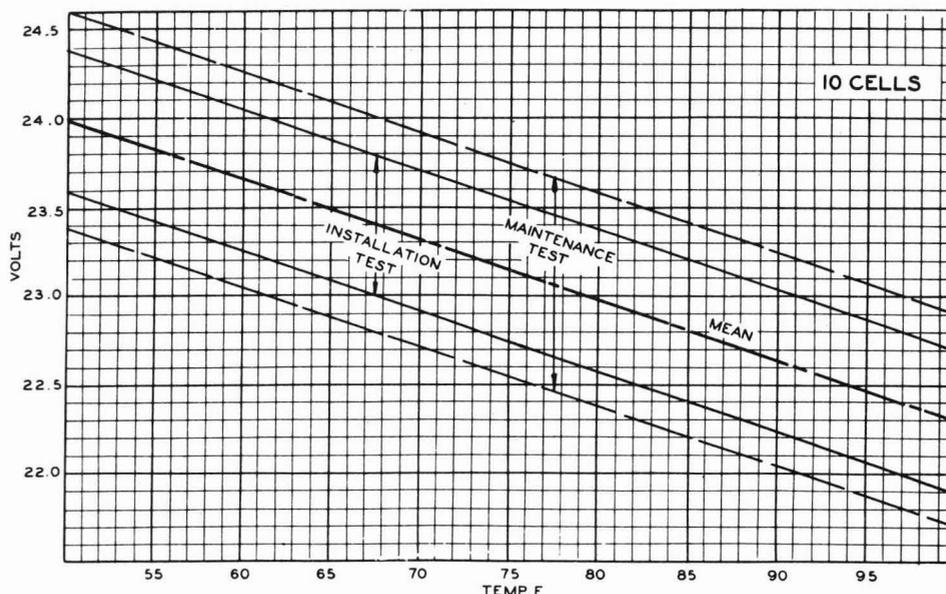

Fig. 3—253A Relay Operate Limits. (Without Rheostat)
1.02 It is reissued to specify the use of the Model 280 Voltmeter or M9B meter for all tests and to delete the KS-8039 Voltmeter, to eliminate the readjust curves in Figs. 3, 4, and 5; to rearrange and reword the text, and, in general, bring the section up to date. Significant changes are marked by arrows.
2.02 **The 253A and 253B relays for 8, 10 or 11 cell batteries without rheostats** in the relay coil circuit to reduce the charge, shall meet the operate values shown in Fig. 3, 4 or 5 as indicated.
(1) Set up the connections, stabilize the relay, and determine the temperature and operate voltage of the relay as outlined in 3.01. If the operate voltage is within the installation test limits specified for the temperature shown in Fig. 3, 4 or 5 for the type battery being used, no further action is required. If it is not within the limits, readjust as follows.
- (6) The maintenance test is less critical than the installation test. If a recommended thermometer is not available, the temperature may be estimated, or the value shown on the room thermometer may be used. Where test connections of the circuit requirement table as referred to in 3.01 are not convenient, connect the relay winding across the battery and raise and lower the test voltage on the winding by controlling the charge rate. In some instances, such as during heavy load periods, it may not be possible to raise the voltage sufficiently by this means and dry cells may have to be added in series with the battery to secure the desired test voltage.
- (7) Where the relay winding is not normally energized, leave the voltage on the winding at approximately the desired operate value for 20 minutes or more before checking the operate voltage.
- (8) If the operate voltage, based on room or estimated temperature, is outside of the maintenance test limits in Fig. 3, 4 or 5, no attempt at readjustment, either electrical or mechanical, should be made without checking the temperature adjacent to the relay with the recommended thermometer. If the operate voltage is still outside the limits based on an actual temperature reading at the relay, readjust as outlined in (2), (3), (4), and (5).